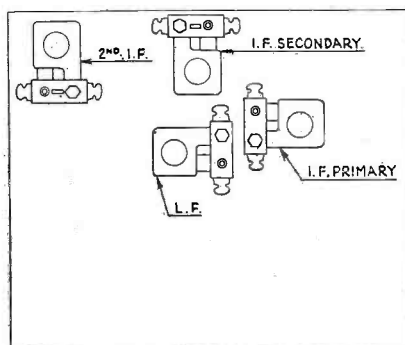

Fig. 2.
Using a fiber wrench, adjust the second i-f condenser, the correct adjustment being obtained when the maximum reading is secured on the meter. Next adjust the secondary and primary i-f condensers. These are the right-hand ones in Fig. 2.
For the low-frequency adjustment, tune the receiver and signal generator to 700 kc, and adjust the condenser (LF)—see Fig. 2. During this operation the tuning condenser must be shifted and the compensator must be adjusted to bring in the maximum signal. After this has been done, check the adjustment of the high-frequency condenser at 1400 kc again.